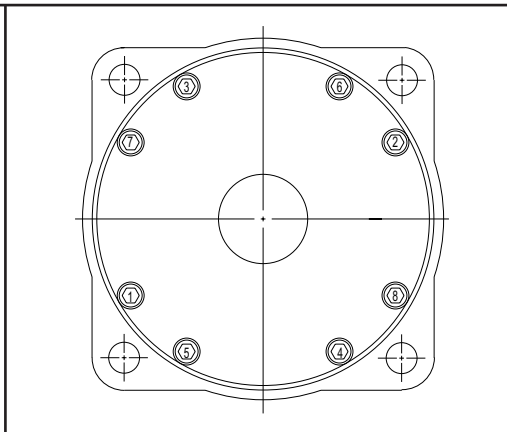

FIGURE 2
- A) To aid in reassembly of the motor, make a “I” shaped set of lines from the endcover to the housing using either paint or a marker. With shaft facing down, secure motor in vise by clamping on to housing (15).
- B) Loosen and remove seven bolts (34) holding motor assembly together. Remove endcover (32) carefully as piston (30) and spring (31) may fall out. If piston does not come out, carefully pry piston (30) out of endcover (32) and lay aside. Remove O-Ring seal (13) and backup seal (14) from endcover and discard seals. Remove spring (31) and lay aside.
- C) Lift commutator container and commutator (29) from motor and lay aside. Place commutator on a flat, clean surface with the seal (12) facing up. Place the tip of a small screwdriver on the seal (12) and gently tap until opposite side of seal lifts from groove. Remove seal (12) and discard.
- D) Remove manifold (28) and rotor set (27). Remove all seals (10 & 11) from components and discard. (Caution- Do not allow rolls to drop from rotor assembly (27) when removing rotor assembly from motor.) Remove drive link (26) from motor and lay aside.
- E) Put the housing assembly into an arbor press with the shaft facing down. Lower the press to apply downward pressure on the rear housing (23) and lock the press in place. Loosen and remove the eight capscrews (24) holding the rear housing (23) to the front housing (15). Slowly release the press to allow spring pressure to push the rear housing (23) from the front housing (15). Remove the rear housing (23) and lay aside. (NOTE: Bearing (16) and spacer shim(s) (22) may fall out of rear housing (23).) If no arbor press is available, place front housing in a vise with pilot on housing facing down. To remove the (8) SHCS, turn each screw $\frac{1}{2}$ turn following the bolt pattern shown in figure 2 until the springs are fully released. Then remove all screws.
- F) Remove springs (21) from front housing (15) and lay aside. Remove housing (15) from arbor press and place on a clean, flat surface with output end of shaft (35) facing up. To remove piston (20), friction disks (17) and disk stampings (18 & 19), firmly grasp output end of shaft with a rag. Raise housing assembly a few inches above work surface and firmly strike housing assembly on work surface until piston and disks drop from housing assembly. Lay piston (20) and disks (17, 18 & 19) aside. Remove shaft (35) from housing (15) and lay aside.
- I) Install springs (21) on top of piston. Install O-Ring Seal (9) in rear surface of housing (15). If rear shaft bearing (16) and spacer shim(s) (22) came out of rear housing (23), reinstall at this time by placing spacer shim(s) (22) into rear housing (23). Install rear shaft bearing (16) making sure that snap ring that retains bearing rolls faces out. While holding bearing into rear housing, place rear housing (23) onto front housing (15) lining up bolt holes. While holding motor assembly together, remove motor assembly from vise and place in arbor press. Press down on rear housing (23) until it contacts front housing (15) and lock press. Install eight capscrews (24) and torque to 45 ft. lbs. If no arbor press is available, place front housing in a vise with pilot on housing facing down. Screw in the (8) SHCS until they engage the threads in the housing (15). Then turn each screw $\frac{1}{2}$ turn at a time following the bolt pattern shown in figure 2 to evenly tightened down the rear housing (23) until it contacts the housing (15). Then torque the screws to 45 ft. lbs.
- J) Install drive link spacer (25) in shaft. Install drive link (26) into end of shaft with tapered end facing up. Place body seals (10) in grooves in both sides of rotor (27). Place rotor (27) onto rear housing (23) with side of rotor with chamfer in splines facing rear housing (23). Place manifold (28) over rotor (27) with seal groove side up. Install manifold seal (11).